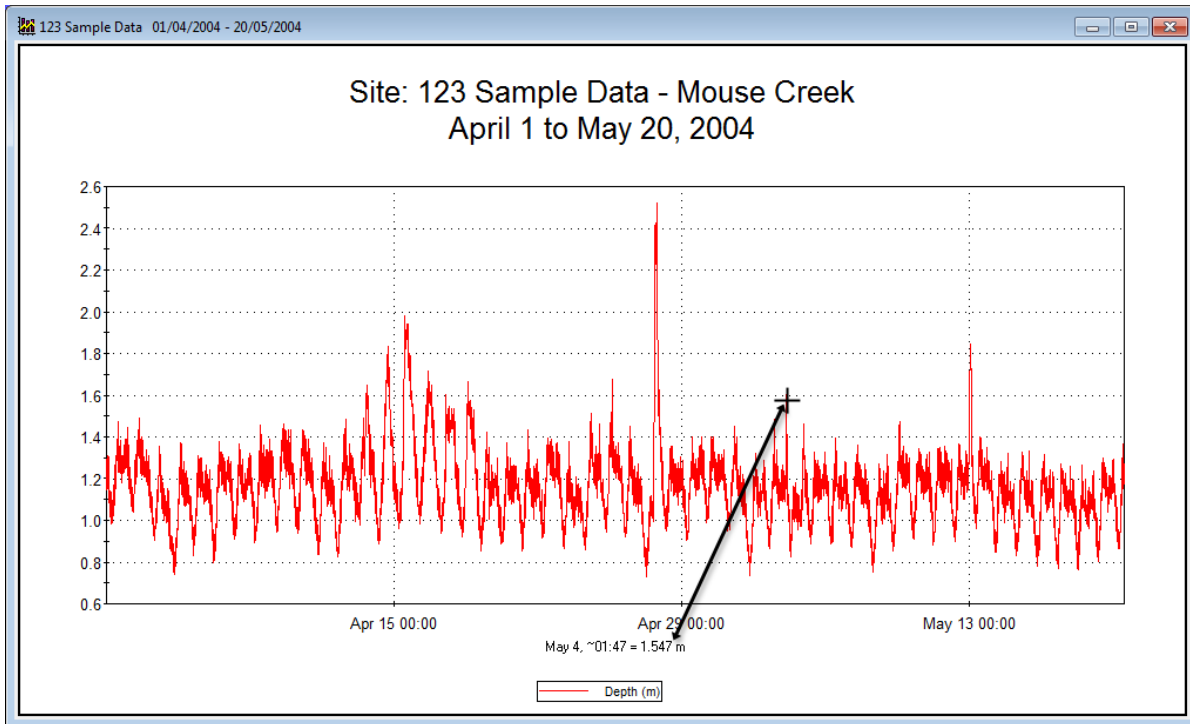

Figure 11 : Graph output with cursor data display
7. To find the value of any point on the graph, simply hold your mouse pointer over the point, and the time and intensity values at that point in time will be displayed below the graph as shown in Figure 11.